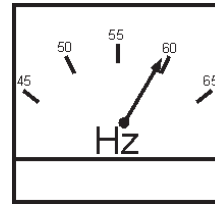

Figure 51. Frequency Meter (Hz)
13. The generator’s frequency meter (Figure 51) should be displaying the 60 cycle output frequency in HERTZ.